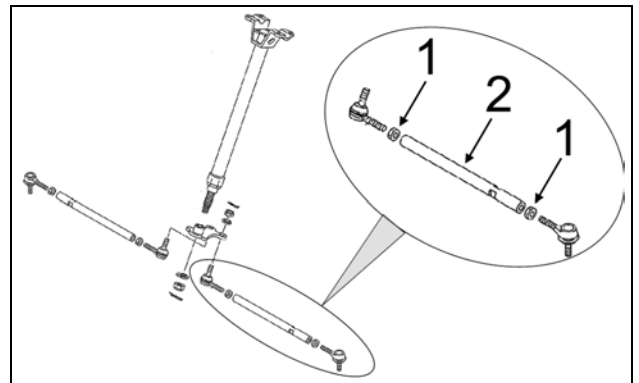

Figure 17
To adjust the ATV's steering system, first loosen coupling rod nuts (1), then screw or unscrew the coupling rod (2) an equal number of revolutions on both sides of the vehicle. Re-tighten nuts when adjustment is complete. See Figure 17.
**CAUTION:** Remember that some nuts have reverse threads before loosening a coupling rod nuts (1) on the vehicle's steering system. Make sure to unlock the nut in the proper rotational direction.